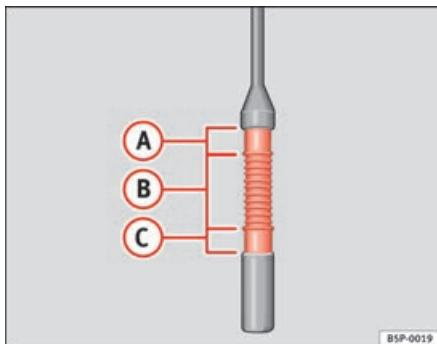

Fig. 128 Engine oil dipstick.
- Then pull it out once more and check the oil level ⇒ fig. 128. Top up with engine oil if necessary.